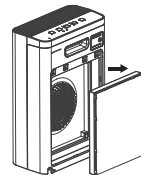

Fig.2
2. Remove the packed filter from machine. (see fig.2)